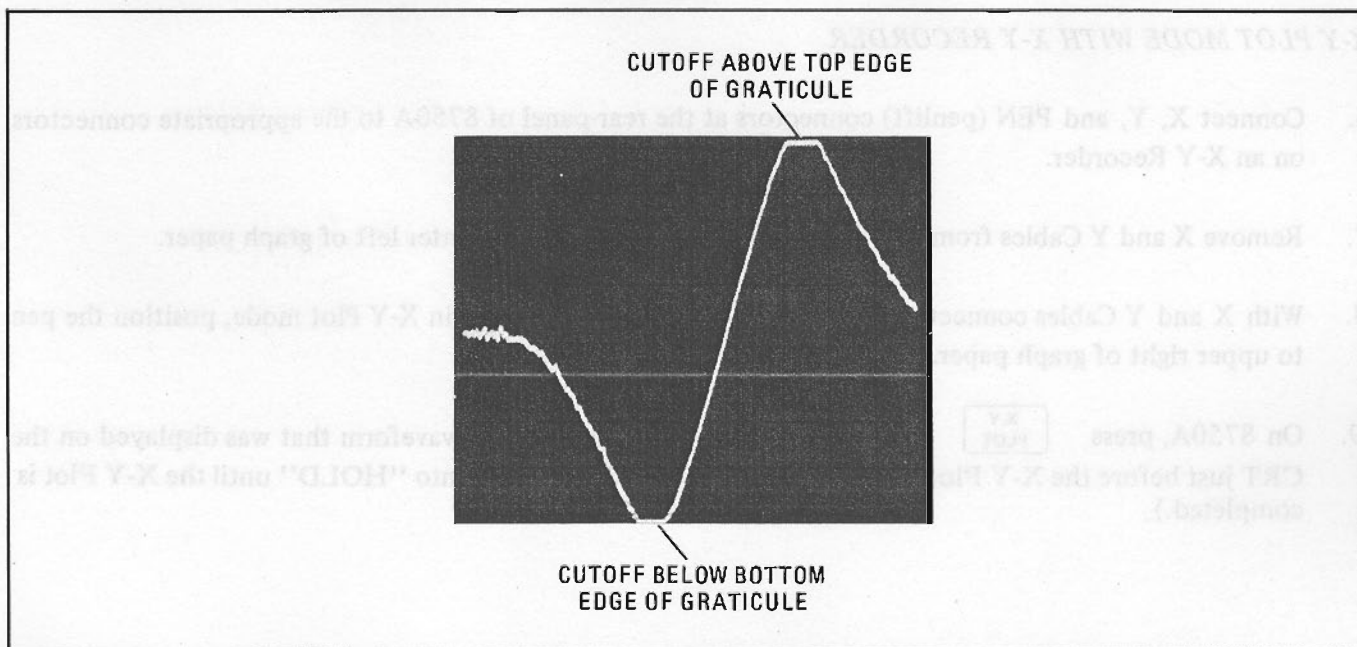

Figure 3-13. CRT Trace Showing Front-Panel VERT GAIN Correctly Adjusted
9. On 8558B, adjust TUNING control slightly to obtain a trace that goes off screen on both the top and bottom or flattens on top and bottom. (See Figure 3-13.)
10. Adjust the front-panel VERT GAIN so the flat cutoff sections of the trace both move outside the CRT graticule area on the top and bottom. (See Figure 3-13.)